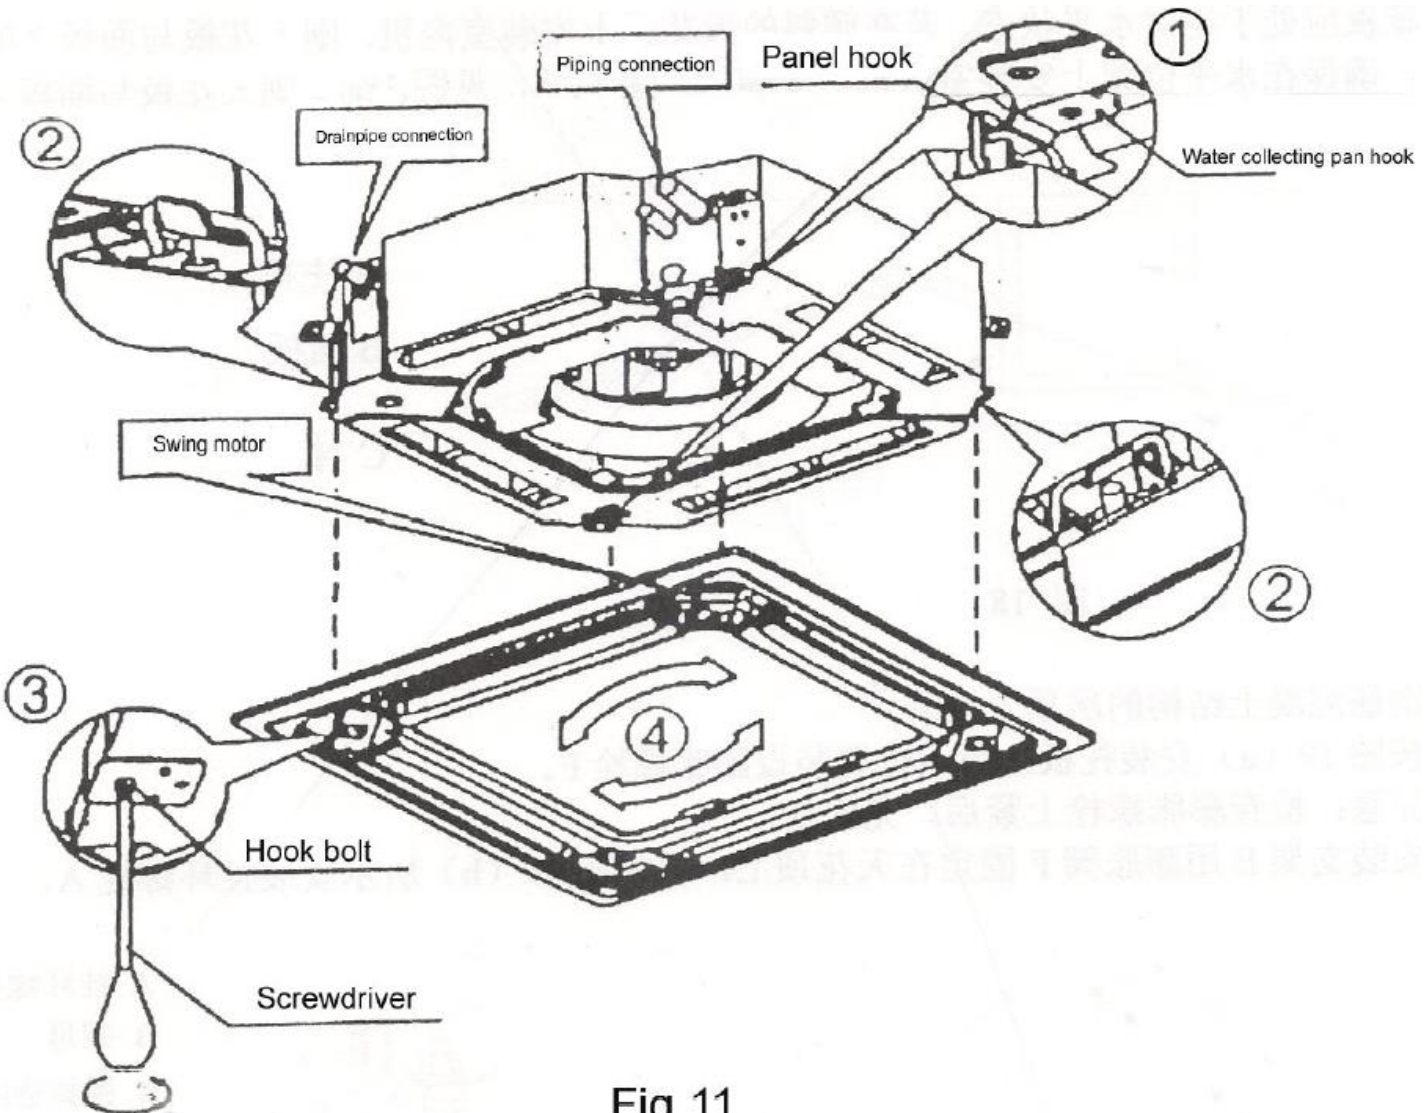

Fig 11
(1) Point the swing motor on the panel straight to the tubing side of the main unit (See Fig 11);
(4) Adjust the four hook bolts to keep the panel level and evenly lift it to the position close to the ceiling (as shown in Fig 11③)
(5) Slightly adjust the panel following the arrow direction (Fig 11④) to keep the center of the panel in line with that of the ceiling opening. Check whether the hooks on four corners are put up.